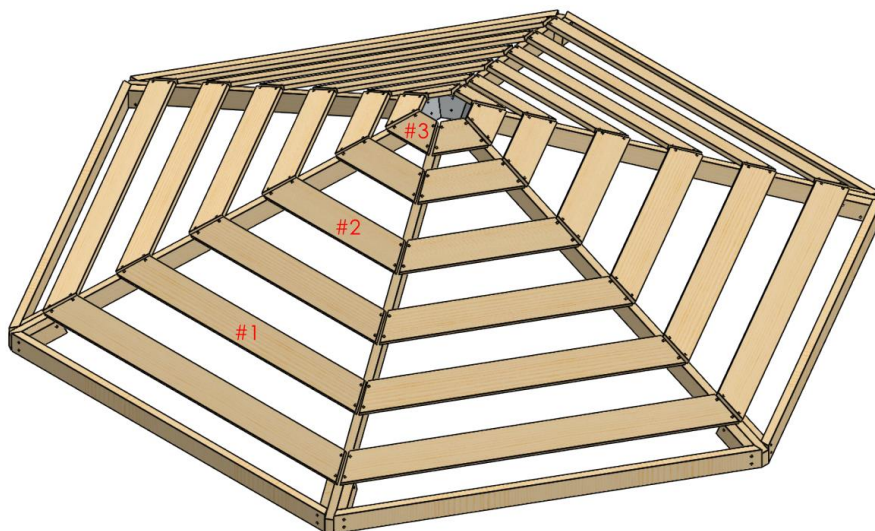
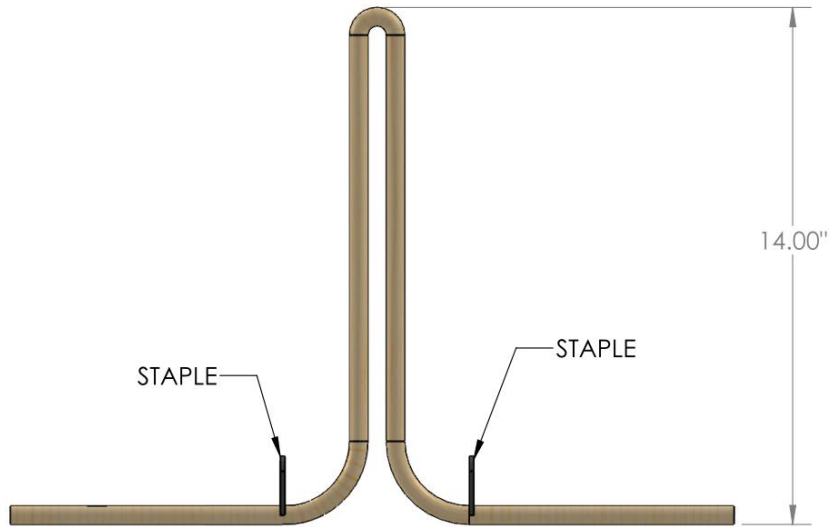
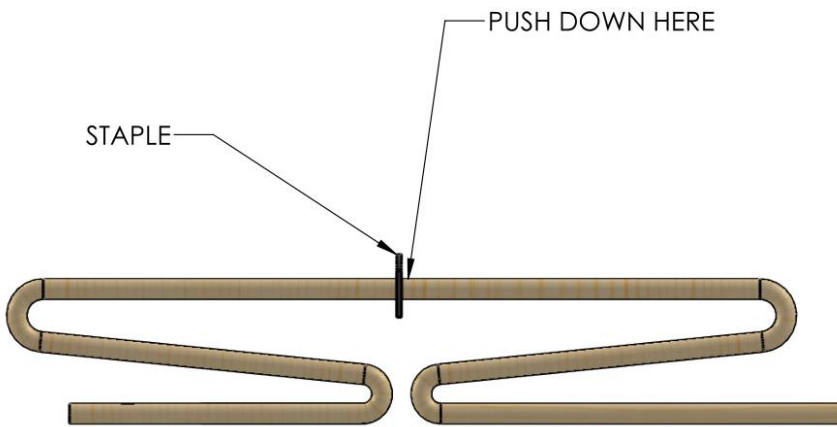

Figure 14
Figure 15
Figure 16
15) Roof thatch is precut to the following lengths: #1-39', #2-29', #3-19'. Attach the thatch to the corresponding boards as shown in Figure 14 using staples. At each roof truss where the board changes directions, make a loop in the thatch as shown in Figure 15 and staple on both sides of the loop. Then push the loop down and staple the center down in place as shown in Figure 16. Staple thatch every 4 inches on every perlin.